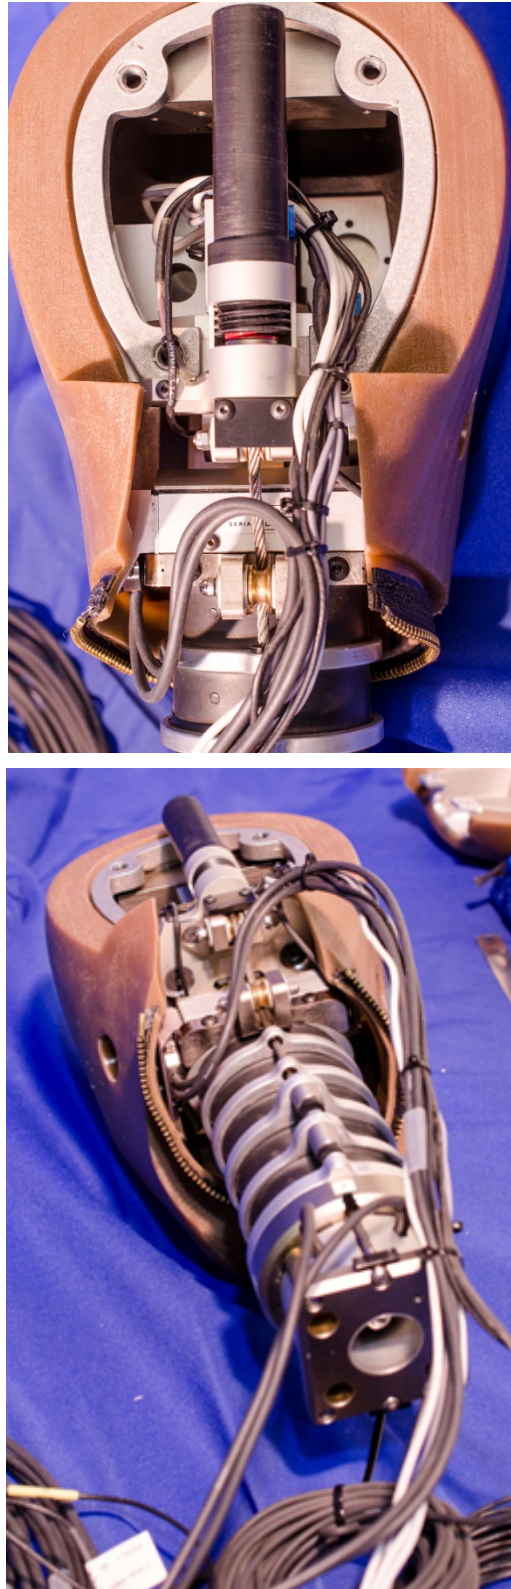

Figure 3-23. Routing cables for the head
3.2.2.17 Route the instrumentation wires from the head and upper neck load cell as shown in Figure 3-23.